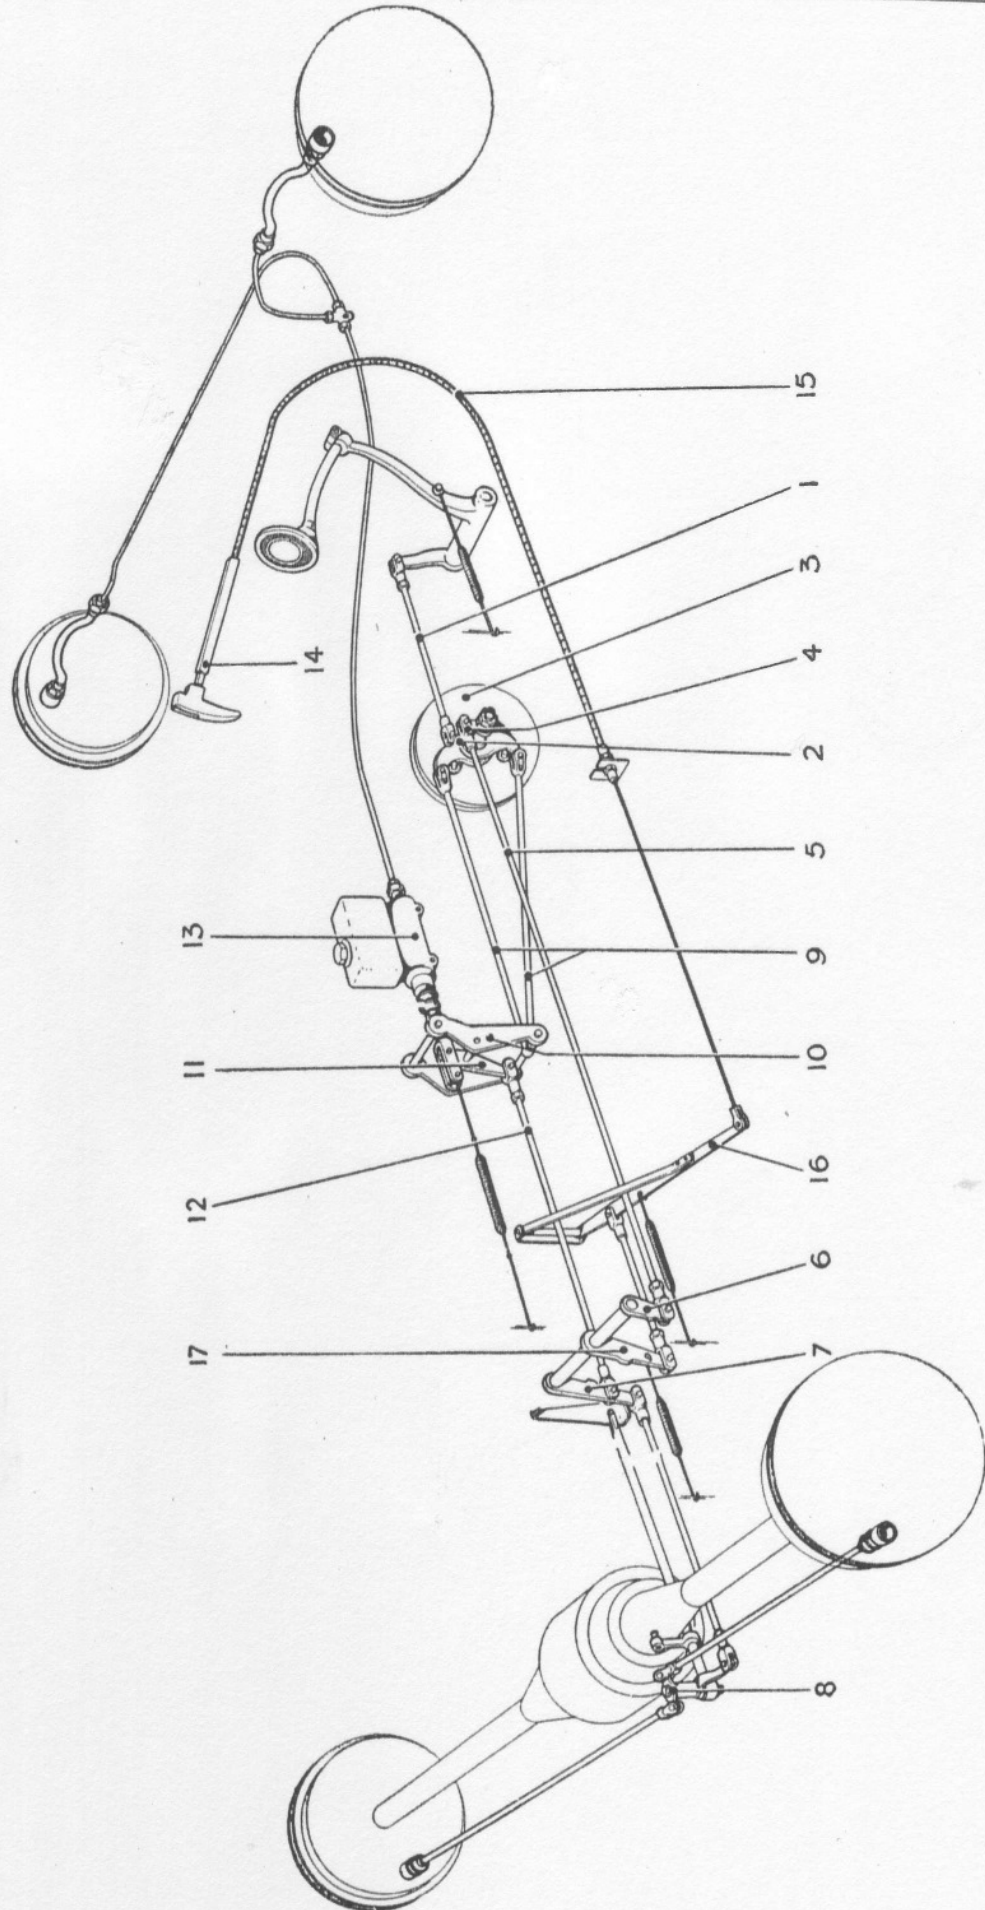

Fig. 15.—DIAGRAM OF BENTLEY BRAKING SYSTEM.
A diagrammatic representation of the whole system is shown in Fig. 15.
A pull rod (1, Fig. 15), operated by the pedal, is coupled to a lever (2), on the servo motor shaft, the motor itself (3) being mounted on the off-side of the gearbox, and driven at approximately one-tenth of the propeller shaft speed.
The servo is of the dry disc-brake type, and is shown in Fig. 15. An adjustment is provided for the initial setting and wear of the friction surfaces, but once correctly set, should require no further attention for a considerable period, as very little wear occurs. As the operation is of a delicate nature it is advised that this adjustment should be effected by Messrs. Bentley Motors (1931) Ltd., or one of their "Special Retailers".
The only points that require attention are the jaws and pins of the pull rods and intermediate levers (6, 7 and 17, Fig. 15). Oil should be applied to these points every 5,000 miles, as directed on page 31. The ball bearing cams which actuate the servo (as described earlier in this chapter) are filled with lubricant upon initial build, and require no attention between overhauls of the chassis.